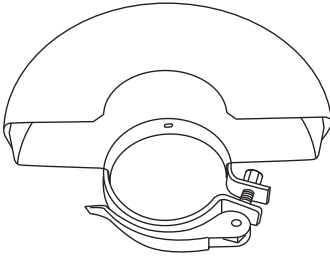

Fig. 3, cutting guard (12)
1. Use the closed cutting guard (12) for cutting-off applications (Fig. 3).